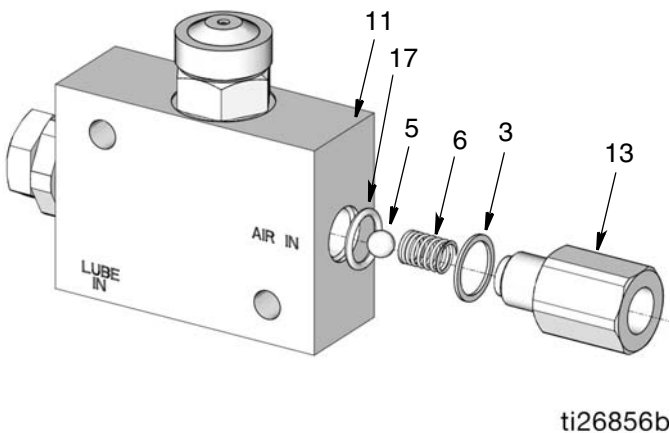

FIG. 10
2. Apply a thin layer of oil to copper gasket (3). Install gasket on air inlet fitting (13) as shown in FIG. 10.
Install the o-ring (17) and ball (5) in the valve body (11) and then install the spring (6) as shown in FIG. 10. Install the air inlet fitting (13). Torque cap to 20 ft-lbs (27.12 N•m).
NOTE: The o-ring, spring and ball must installed in the correct order as stated in Step 2 and is shown in FIG. 10.